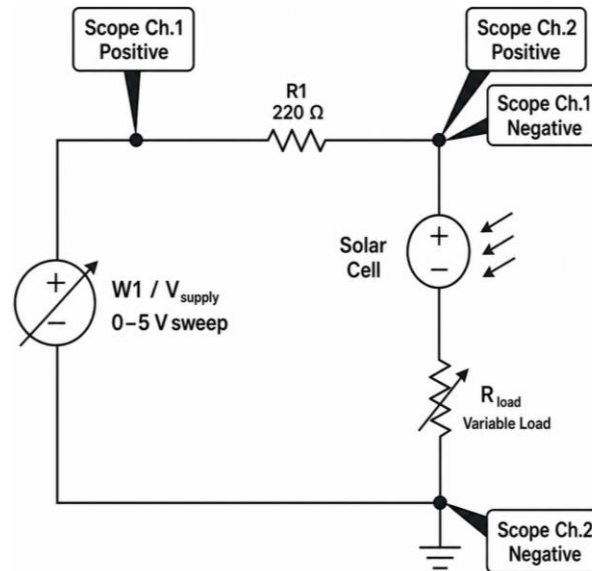

Figure 3b. Solar Cell I–V Curve Tracer Circuit
2. Connect the solar cell in the circuit as the device under test, as shown in **Figure 3b**.
Figure 3b shows the solar cell I–V curve tracing circuit using the **WaveForms Tracer** method. In this configuration, a controlled voltage sweep is applied by **W1 / V_{supply}** through the series resistor **R1**. The solar cell is used as the device under test, and the additional load resistance is varied in order to observe the effect of load resistance and illumination on the measured I–V characteristic.
- 5.2. Replace the LED with the solar cell circuit shown in **Figure 3b**.
Important note: Do not use the WaveForms Tracer NPN mode ($I_c/V_{ce}(I_b)$) for this solar cell experiment. That mode is intended for transistor characterization. For the present solar cell measurement, use the WaveForms Tracer I/V measurement mode with the circuit shown in Figure 3b, and repeat the measurement for different load resistances and illumination conditions.